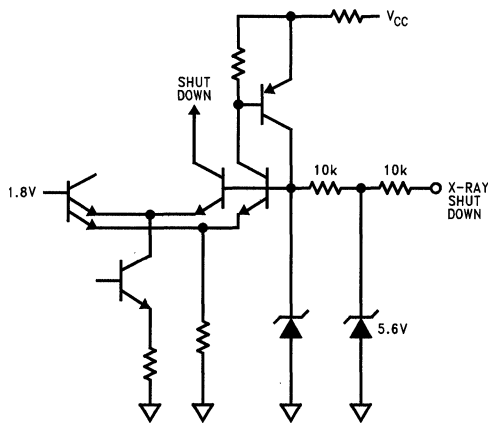

FIGURE 12
**X-RAY SHUTDOWN (Pin 16):** This pin turns off the Horizontal Drive Output if its voltage equals or exceeds an internal reference of approximately 1.7V. The output is latched high, and  $V_{CC}$  has to be reduced to below approximately 2V to clear the latched condition; i.e., power must be turned off. This feature provides "X-Ray protection" by checking CRT anode voltage level through a resistive divider from a power supply voltage that is proportional to the CRT voltage. See *Figure 12* for the input schematic.